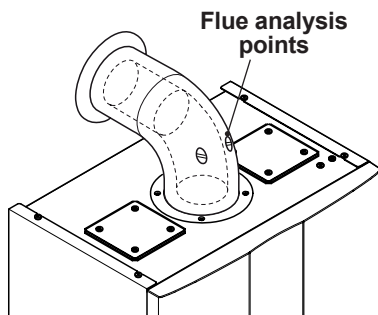

Fig. 10.17
- Connect a flue analyser to the flue analysis outlets on the flue exhaust of the boiler Fig. 10.17.
- Check the combustion of the boiler using the outlets located on the flue tubes (Fig. 10.17) and compare the data measured with that following.